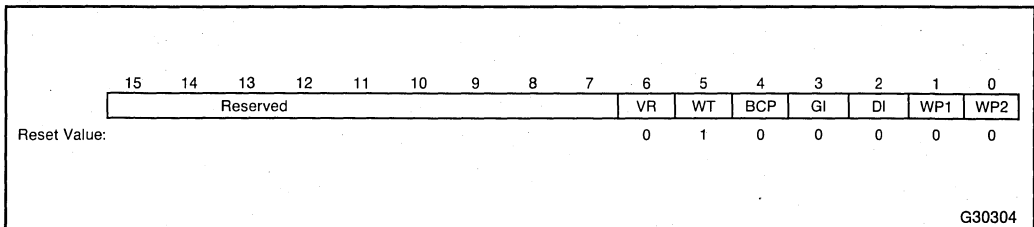

Figure 4-5. BIU Control Register
The BIU Control Register defines whether DRAM or VRAM memory cycles fetch display data, byte or word access to the Internal Register Block occurs, Graphics Processor (GP) and Display Processor (DP) Interrupts, and write protection for all BIU Internal Registers. Figure 4-5 outlines the parameters in the BIU Control Register.
**GI**—The Graphics Processor Interrupt bit is set when the Graphics Processor (GP) issues an interrupt. The GI is cleared when the 82786 is RESET or the BIU Control Register is read.
**DI**—The Display Processor Interrupt bit is set when the Display Processor (DP) issues an interrupt. The Display Processor Interrupt bit is cleared when the 82786 is RESET or the BIU Control Register is read.